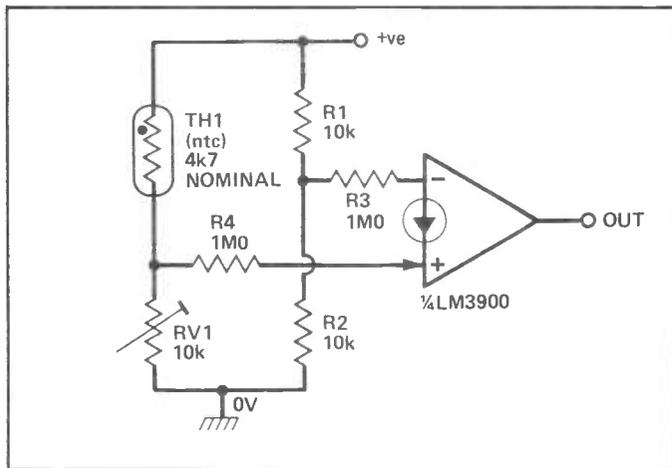
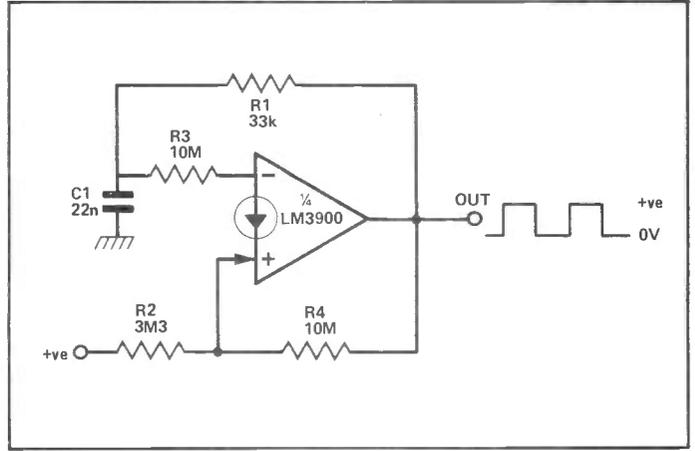
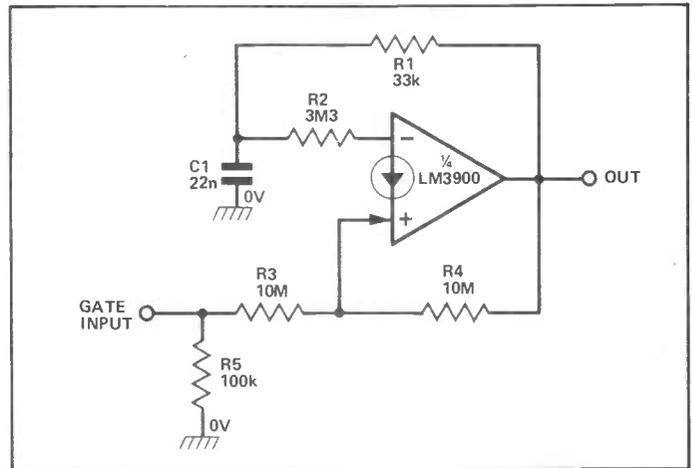

Figure 17: Over-temperature switch.
Figure 31: 1 kHz square-wave generator.
Figure 32: Gated 1 kHz astable.
**Figures 17 to 21** show some useful applications of voltage comparators. The **Fig. 17** design is that of an over-temperature switch, the output of which goes high when the temperature of negative-temperature-coefficient (ntc) thermistor TH1 exceeds a value pre-set via RV1. Potential divider R1-R2 feeds a fixed half-supply reference voltage to R3, which then feeds a reference current to the inverting terminal, and TH1-RV1 form a potential divider that feeds a variable current to the non-inverting input via R4. The potential on the TH1-RV1 junction rises with temperature, and the op-amp output switches high when this voltage exceeds half-supply value. The trip temperature of the circuit can be pre-set via RV1.
Note that the operation of the **Fig. 17** circuit can be reversed, so that it operates as an under-temperature switch, by transposing the TH1-RV1 positions. Also note that, since RV1-TH1-R1-R2 are wired in a Wheatstone bridge configuration, the trip point of the circuit is independent of variations in supply rail voltage.
To conclude this look at the LM3900, Figs. 31 to 33 show some useful ways of using the op-amps to make simple waveform generators. Fig. 31 shows a 1 kHz square-wave generator, in which C1 alternately charges and discharges via R1. When the output is high, R3-R4 are effectively connected in parallel, and C1 charges via R1 until the current flow into R2 equals that flowing into the non-inverting terminal of the op-amp; this point occurs when the voltage across C1 rises to approximately 2/3 ( $V_{supply}$ ). At this point the circuit switches regeneratively, the output switches low, and C1 starts to discharge via R1. Under this condition R4 is effectively disabled and the input current to the non-inverting terminal is determined only by R3, so C1 discharges until the R2 current falls to slightly below that of R3; this point occurs when the C1 voltage falls to about 1/3 ( $V_{supply}$ ). At this point the circuit again switches regeneratively, and the output goes high again.
The Fig. 31 circuit is useful for generating square waves with frequencies up to a maximum of only a few kHz. Note that, because of the poor slew rate characteristics of the LM3900 (0.5V/μS), the output waveforms have rather poor rise and fall times. The circuit generates a symmetrical square wave output.
Figure 32 shows how the basic Fig. 31 circuit can be modified to act as a gated 1 kHz astable or square-wave generator by taking R3 to ground via R5, rather than directly to the positive supply rail. The circuit becomes active only when the gate terminal is pulled high (to the positive supply rail).
Finally, Fig. 33 shows how the Fig. 32 and Fig. 17 circuits can be combined to make an audible-output over-temperature alarm, which generates a 1 kHz tone in the PB-2720 transducer when the TH1 temperature exceeds a value pre-set via RV1.